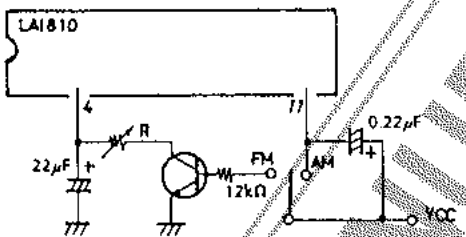

Fig.1 Method to Change the LED ON Sensitivity at the FM Mode
The external resistor connected to pin 12 can be used to vary the muting level (Fig.1). The abnormal sound at the time of side peak reception at the FM mode can be reduced by weak signal muting.
7. The following method can be used to change the LED ON sensitivity at the FM mode (Fig.1). The data on the LED ON sensitivity setting resistance and LED ON sensitivity is shown in Fig.2.